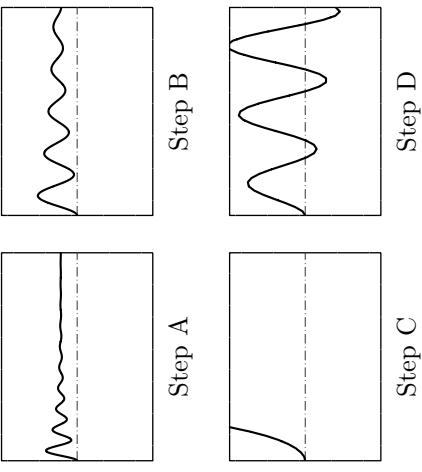
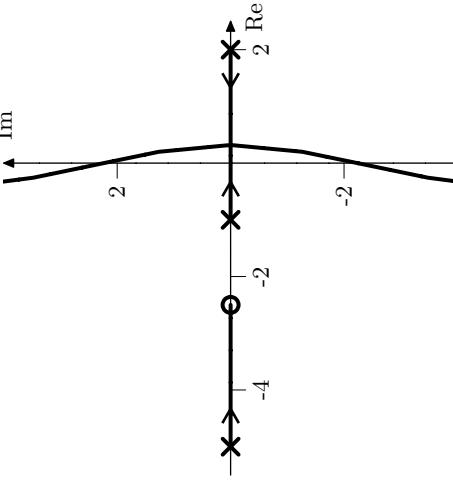

Figure 3.12b. All comparable axes have equal scaling.
Figure 3.12a. Starting points are marked \times and end points \circ .
3.12 Figure 3.12a shows the root locus for the characteristic equation of a P-controlled process G with respect to the gain K . In Figure 3.12b four step responses for the closed loop system with different values of K are shown. Match the plots in Figure 3.12b with the K -values below. Justify your answer.